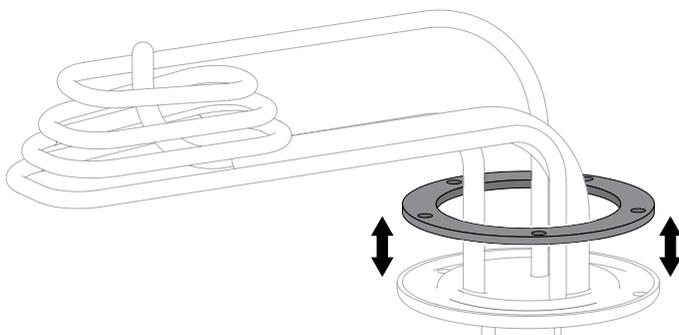

Figure 34: Immersion heater gasket removal
- ▶ Remove and discard the immersion plate seal, then fit a new replacement part see figure 34. For part number see spares page 30, spares number 21.